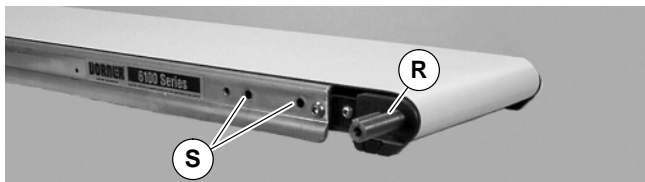

Figure 6
3. Locate drive output shaft (R of Figure 6) and remove two (2) screws (S).